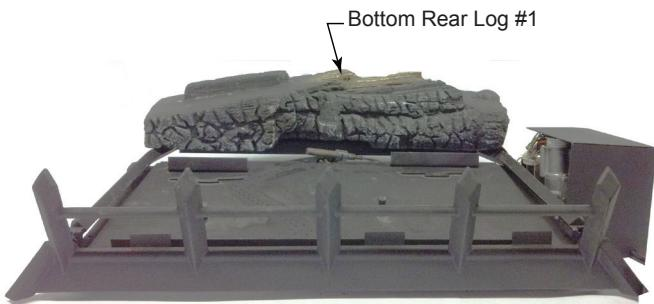

Figure 51
- Place bottom log (#1) on two (2) pins on rear of grate assembly and push towards rear as far as possible. Figure 51